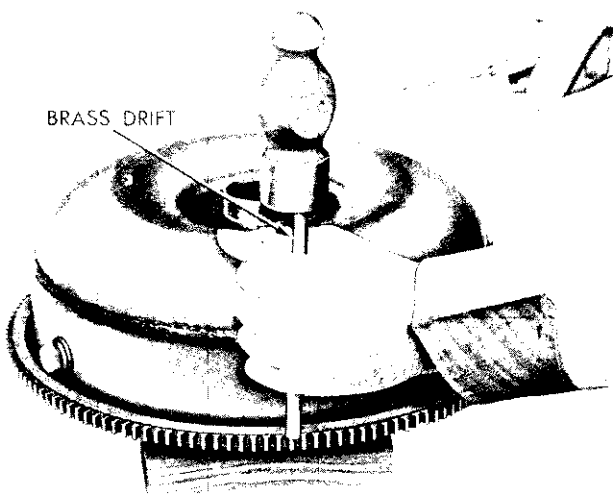

Fig. 99—Removing Starter Ring Gear
(1) Remove the torque converter and housing as outlined in Paragraph —.
(2) Place the converter on the bench and carefully remove the staking lugs. This can be done by filing or by carefully knocking the head off the lug with a hammer and chisel.
(3) Place the torque converter on blocks of wood (for support) while removing the gear. Using a blunt chisel, or drift, tap around the ring gear until it comes off the torque converter as shown in Figure 99.